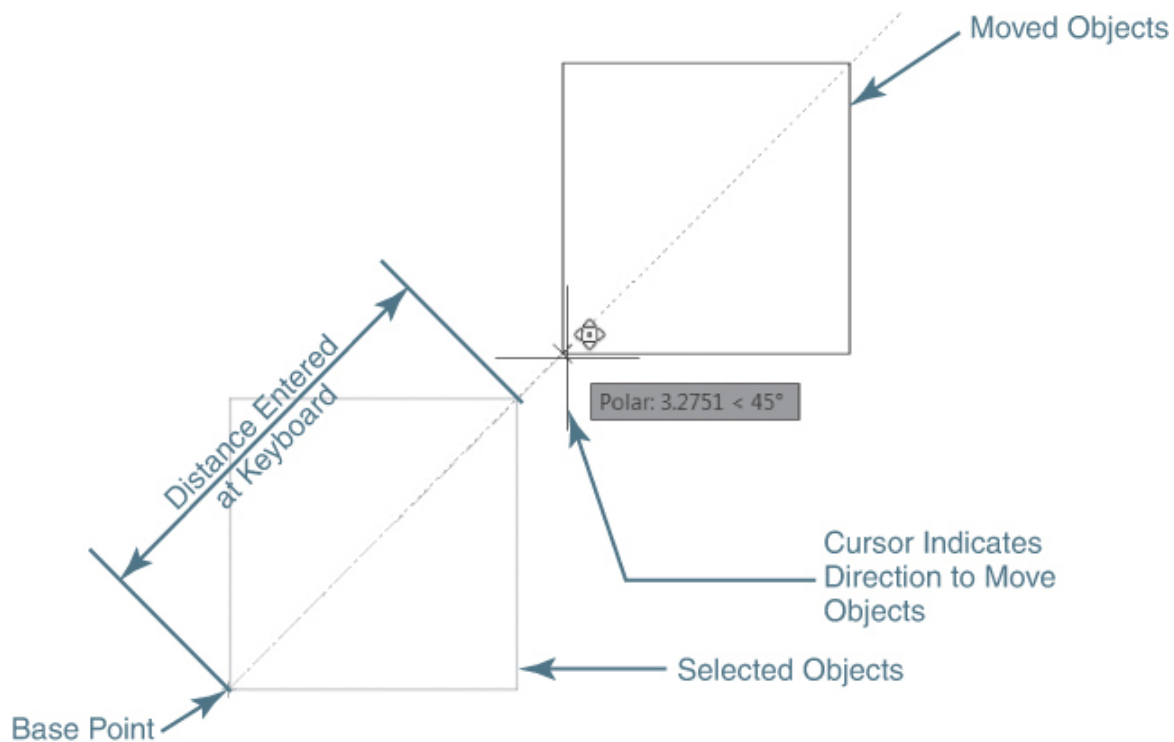

Figure 7-23
You can also use direct distance entry to locate the second point. Using direct distance, you simply point (drag the cursor) the direction you want to move the selected object(s) and type in the distance you want to travel (see Figure 7-23).
- 7 Snap to the lower-left corner of the square using the **Endpoint** object snap as shown in Figure 7-23.
- 8 Move your cursor so the rubber-band line points to the right as shown in Figure 7-23, and type **3<Enter>**. The square moves 3 units along the rubber-band line.